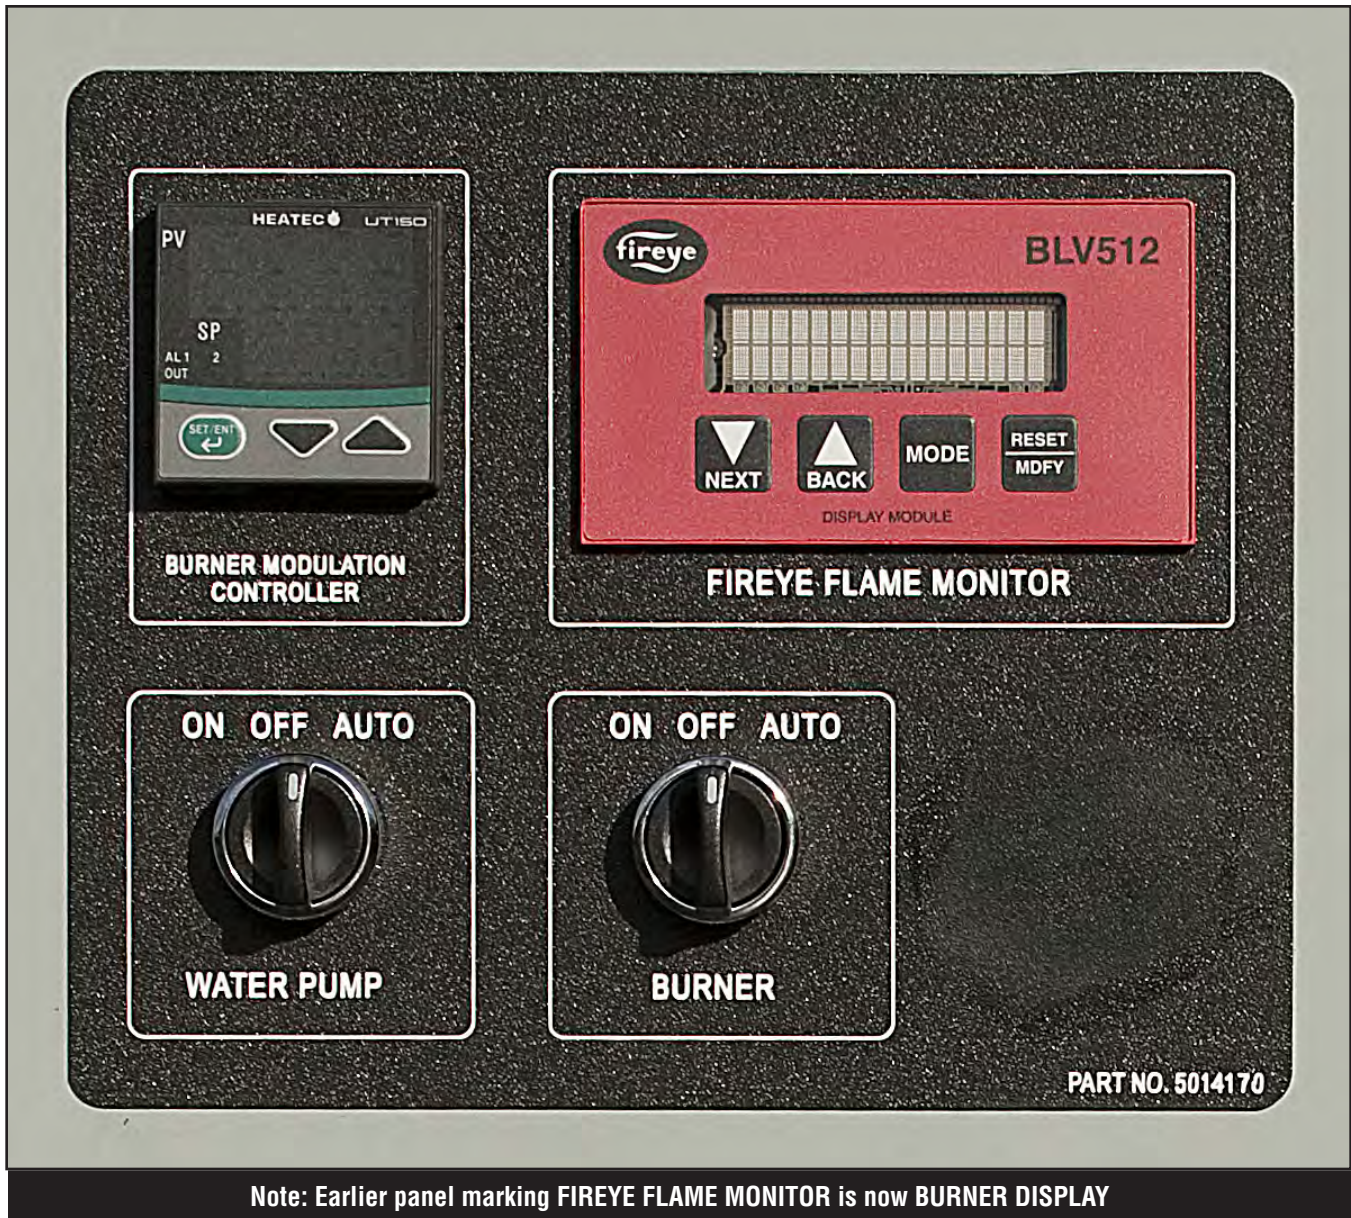

Figure 3. Firestorm controls.
Interaction with Fireye burner controls (Fig. 3)
Interaction with modulation controller (Fig. 3)
- Burner display (**Fig. 3**) indicates abnormal status of either **M-D LIMIT** or **M-8 LIMIT**.